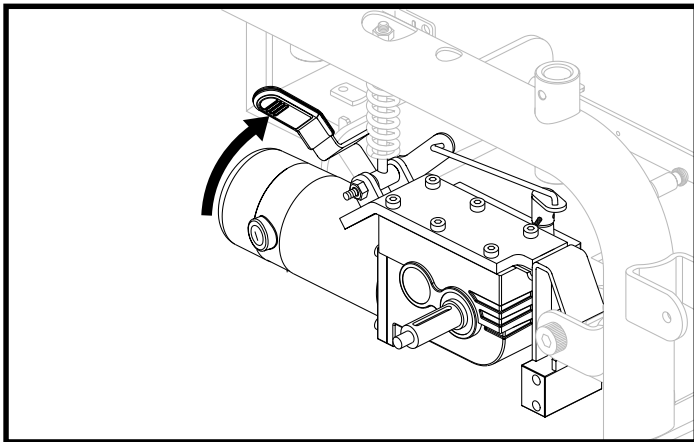

Figure 8. Freewheel Mode (Drive Disengaged)
1. Pull up the manual freewheel lever on each motor for freewheel mode (drive disengaged). See figure 8.